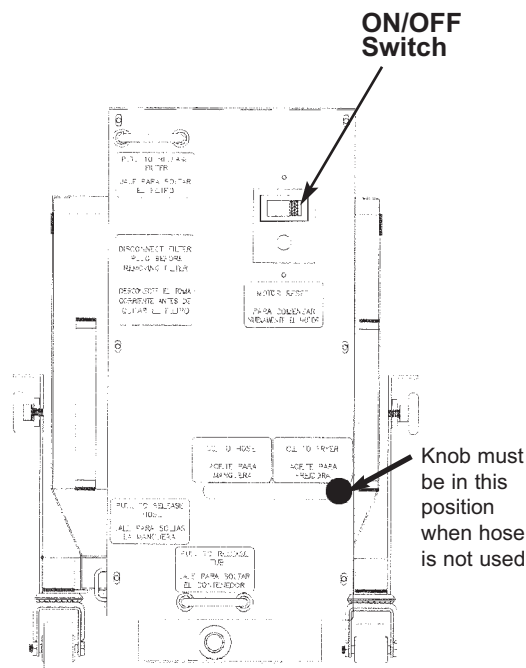

FIGURE 5.
1. On filter assembly, have handle with the black knob set to oil to fryer. Refer to Figure 5.
4. On the filter panel, turn the pump switch to the "ON" position. The green light will illuminate. Refer to Figure 5.